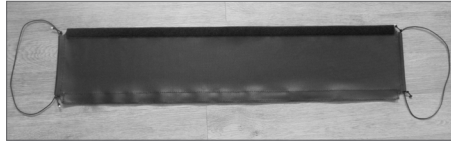

Figure 1
- » Footbar Cover (See Figure 1)